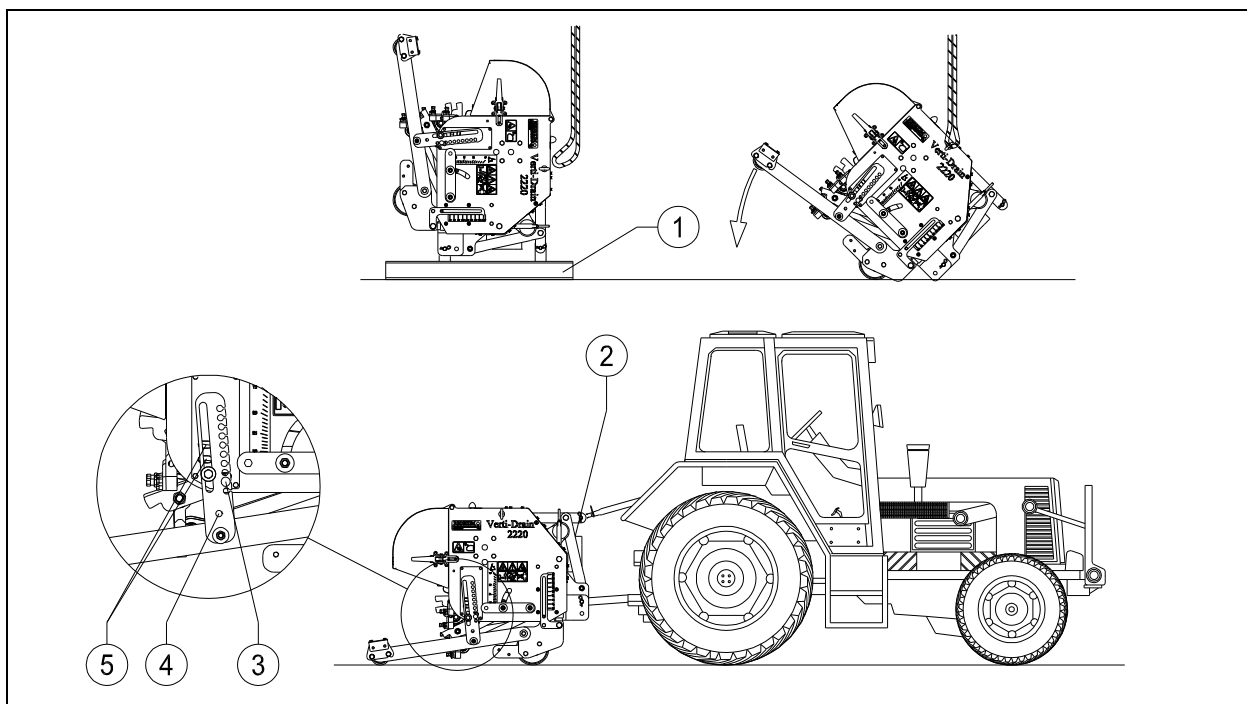

Figure 8
The machine is placed vertically on the pallet. To remove the pallet and to place the machine horizontally on the ground, take the following steps (see Figure 8):
- ✎ To prevent too much dragging of the rear roller in case of shallow pricking, pushing the protection pin (3) in one of the holes (5) will block the rear roller (see Figure 8).
- ⚠ **If the Verti-Drain is incorrectly attached to the tractor, the different PTO angles can cause vibrations in the driveline of the machine (see Figure 8). These vibrations can damage the machine and the holes in the ground.**